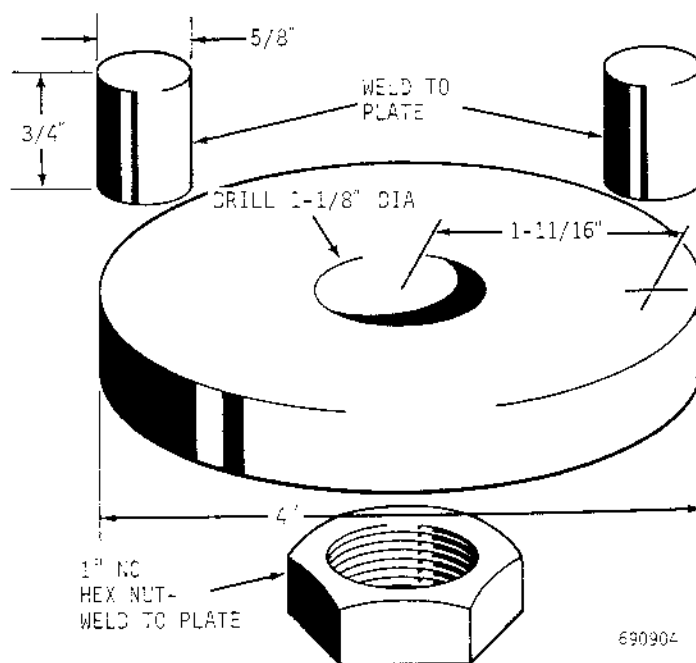

Figure 60 - Recoil Spring Tool (Fits All Models)
4. A spanner wrench type tool will be required to turn the adjusting plate and decompress the spring. This tool can be shop made to the dimensions shown in Figure 60. It will fit all models including the 36" gauge.